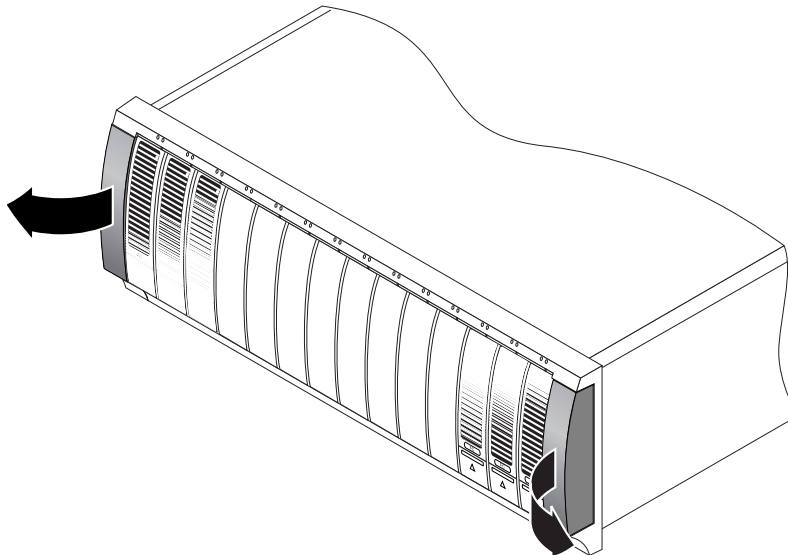

FIGURE 2-8 Removing the End Caps on the Enclosure
1. Unsnap and remove the left and right end caps on the enclosure to permit access to the screw mounting holes (FIGURE 2-8).